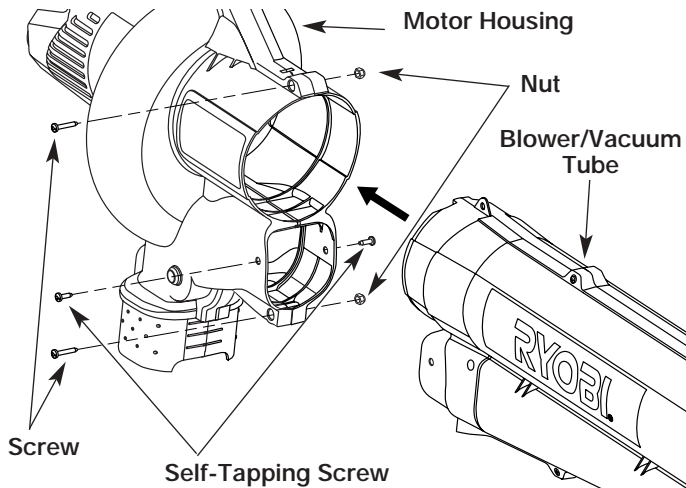

Fig. 1
2. Insert the blower/vacuum tube all the way into the opening on the motor housing until the holes in the tabs on the blower/vacuum tube align with the screw holes in the housing (Fig. 1).